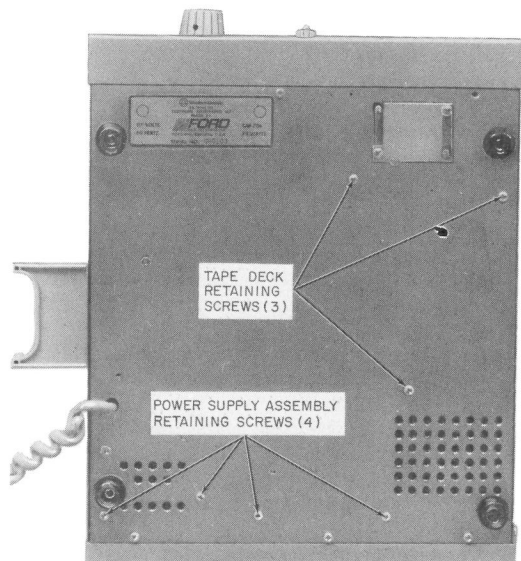
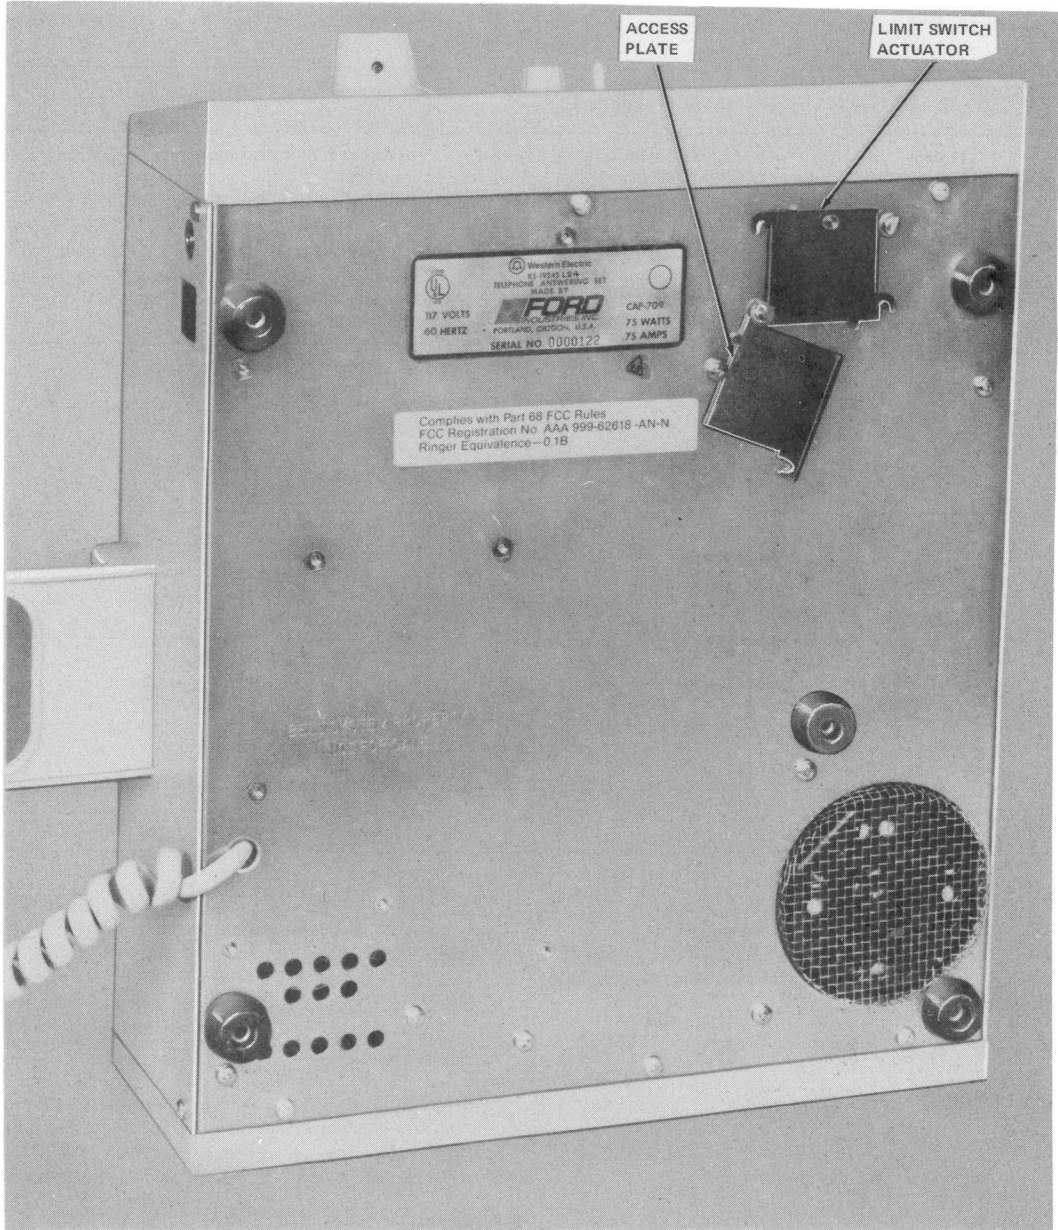
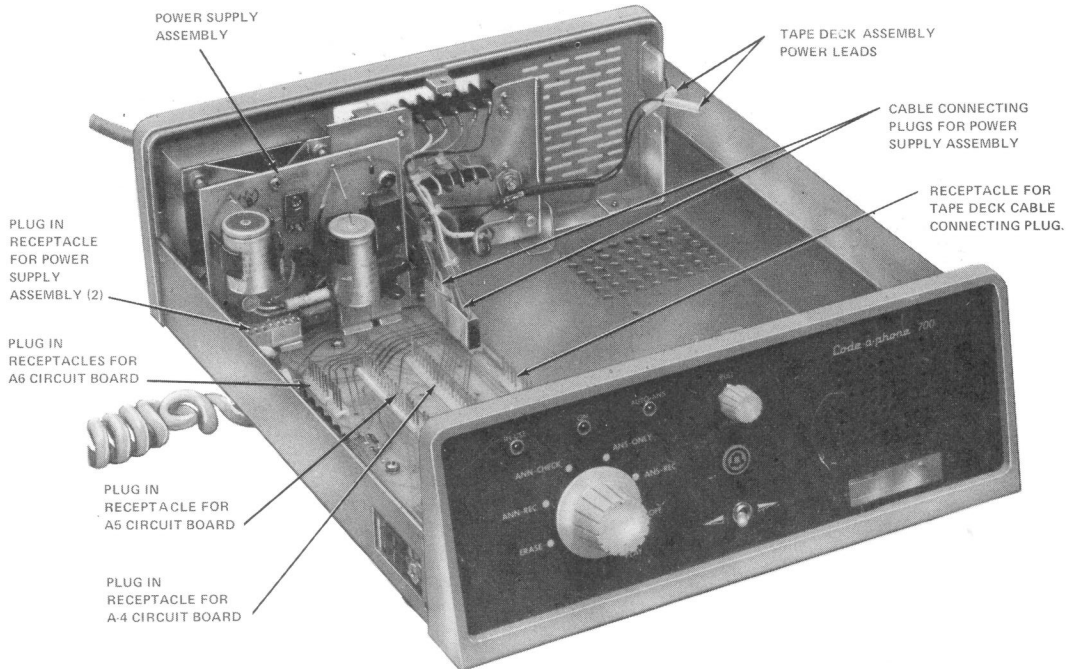

Fig. 4—List 13 (MD) Bottom View, Showing Power Supply and Tape Deck Retaining Screws
Fig. 5—List 24 Answering Set, Bottom View
Fig. 6—Top Cover, Circuit Boards and Tape Deck Removed
- (c) Remove cable connecting plug for tape deck (Fig. 6).
- (d) Lay the set on its right side and remove the three retaining screws for the tape deck (List 13 (MD), Fig. 4; List 24, Fig. 5).
- (h) Disconnect the two tape deck assembly power leads (Fig. 6).
- (3) Remove power supply assembly.
- (a) Disconnect the two cable connectors for power supply assembly (Fig. 6).
- (b) Lay the set on its left side and remove the four retaining screws from the power supply assembly (Fig. 4).
- (4) Insert new power supply assembly.
- (a) Align power supply assembly with receptacles and push down until firmly seated (Fig. 6).
- (b) Lay the set on its left side and install the four retaining screws (Fig. 4).
- (d) Connect the two cable connecting plugs for power supply assembly (Fig. 6).
(5) Reinstall tape deck.
- (a) With tape deck resting next to chassis, connect the two tape deck assembly power leads (Fig. 6).
- (d) Lay the set on its right side and install the three retaining screws (Fig. 4).
- (e) Connect the cable connecting plug for the tape deck to its receptacle (Fig. 6).